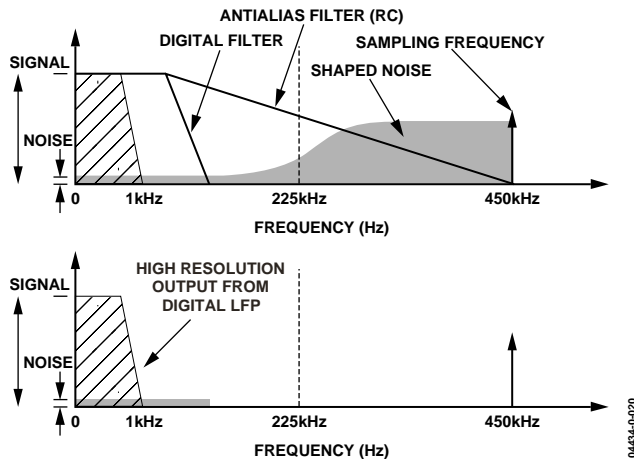
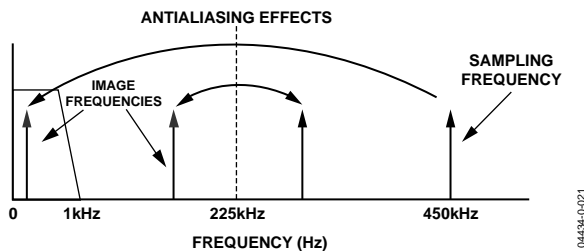

Figure 15. Noise Reduction Due to Oversampling and Noise Shaping in the Analog Modulator
Figure 16. ADC and Signal Processing in Current Channel or Voltage Channel
The  $\Sigma$ - $\Delta$  converter uses two techniques to achieve high resolution from what is essentially a 1-bit conversion technique. The first is oversampling, which means that the signal is sampled at a rate (frequency) that is many times higher than the bandwidth of interest. For example, the sampling rate in the ADE7760 is CLKIN (450 kHz) and the band of interest is 40 Hz to 1 kHz. Oversampling has the effect of spreading the quantization noise (noise due to sampling) over a wider bandwidth. With the noise spread more thinly over a wider bandwidth, the quantization noise in the band of interest is lowered (see Figure 15).
However, oversampling alone is not an efficient enough method to improve the signal-to-noise ratio (SNR) in the band of interest. For example, an oversampling ratio of 4 is required just to increase the SNR by only 6 dB (1 bit). To keep the oversampling ratio at a reasonable level, it is possible to shape the quantization noise so that the majority of the noise lies at the higher frequencies. This is what happens in the  $\Sigma$ - $\Delta$  modulator; the noise is shaped by the integrator, which has a high-pass type response for the quantization noise. The result is that most of the noise is at the higher frequencies where it can be removed by the digital low-pass filter. This noise shaping is also shown in Figure 15.
Figure 15 also shows an analog low-pass filter (RC) on input to the modulator. This filter is present to prevent aliasing. Aliasing is an artifact of all sampled systems, which means that frequency components in the input signal to the ADC that are higher than half the sampling rate of the ADC appear in the sampled signal frequency below half the sampling rate. Figure 16 illustrates the effect.
In Figure 16, frequency components (arrows shown in black) above half the sampling frequency (also known as the Nyquist frequency), that is, 225 kHz get imaged or folded back down below 225 kHz (arrows shown in gray). This happens with all ADCs no matter what the architecture. In the example shown, it can be seen that only frequencies near the sampling frequency (450 kHz) move into the band of interest for metering (40 Hz to 1 kHz). This fact allows the use of a very simple low-pass filter to attenuate these frequencies (near 250 kHz) and thereby prevent distortion in the band of interest. A simple RC filter (single pole) with a corner frequency of 10 kHz produces an attenuation of approximately 33 dB at 450 kHz (see Figure 16). This is sufficient to eliminate the effects of aliasing.